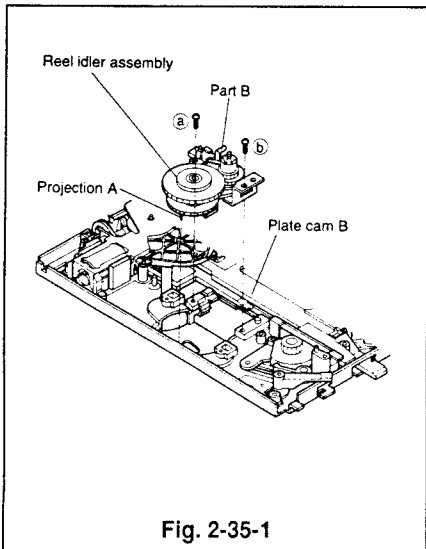
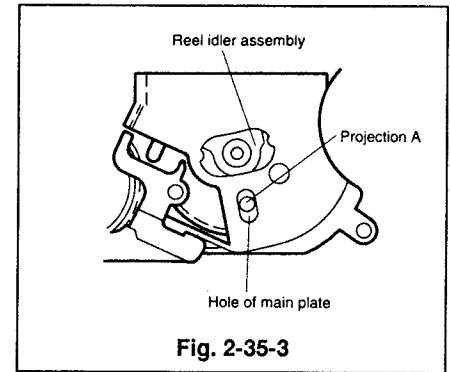

Fig. 2-35-1
Fig. 2-35-3
- ① Insert the part B of the reel idler assembly under the plate cam B as shown in Fig. 2-35-1 and ensure projection A enters the hole on the main plate. Position the reel idler assembly so that its screw holes are aligned and secure it with the two screws (a) and (b). (Fig. 2-35-3 shows its appearance, viewing from the top.)
- ② Install the belt pulley and the reel belt. (Refer to Para. 2-28 for the installation method.)